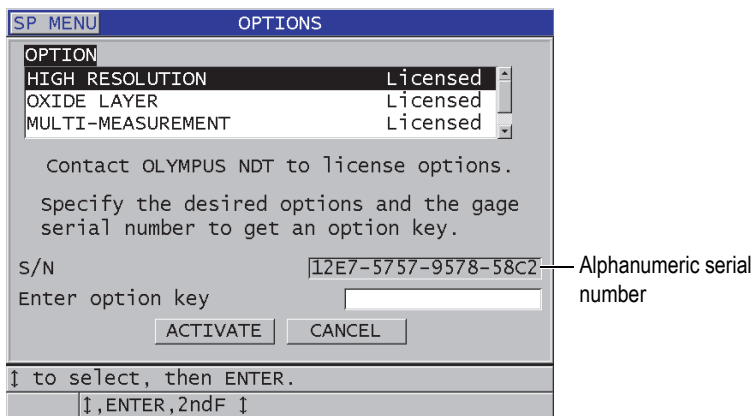

Figure 7-1 The OPTIONS screen to activate software options
3. In the **OPTIONS** screen (see Figure 7-1 on page 108), note the 16-digit alphanumeric serial number appearing in the **S/N** field. The **OPTION** list indicates the actual status of the software options where **Licensed** means that the option is activated.
5. In the **OPTIONS** screen (see Figure 7-1 on page 108):